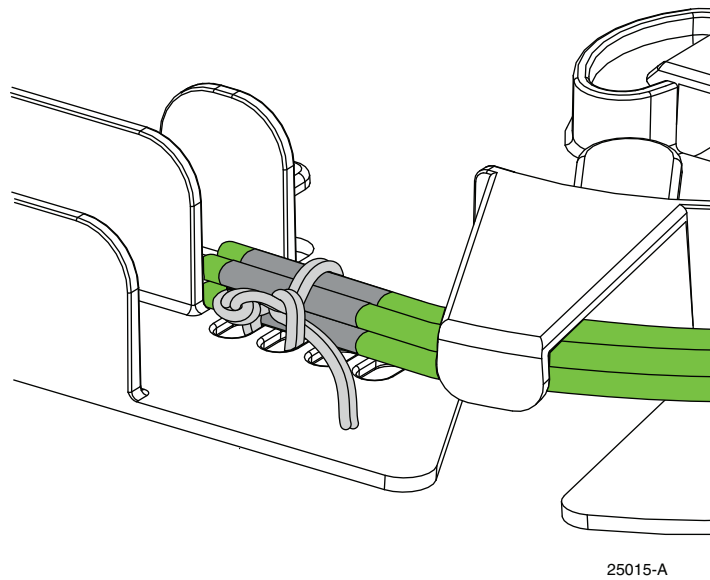

Figure 22. Tightening the First Half Hitch Knot
10. Pull the half hitch knot tight as shown in Figure 22. The second lacing stack layer has now been tied to the fiber breakout deck.